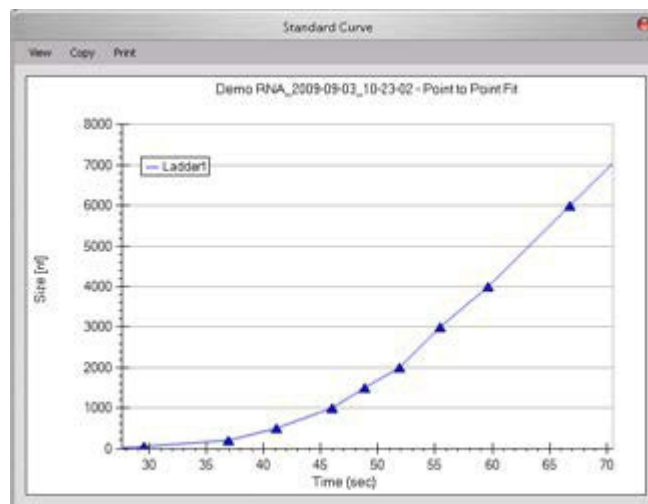

Figure 10. Standard Curve - RNA
- 6 The ladder is analyzed (see Ladder Analysis on page 282) and a standard curve of migration time versus RNA size is plotted from the RNA ladder by interpolation between individual RNA fragment size/migration points. The standard curve derived from the data of the ladder well should resemble Figure 10.